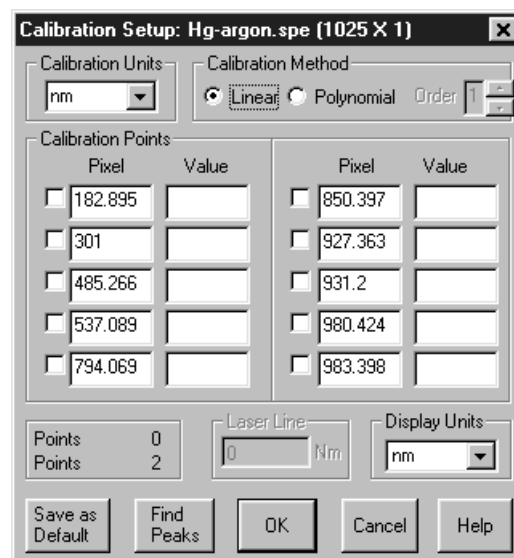
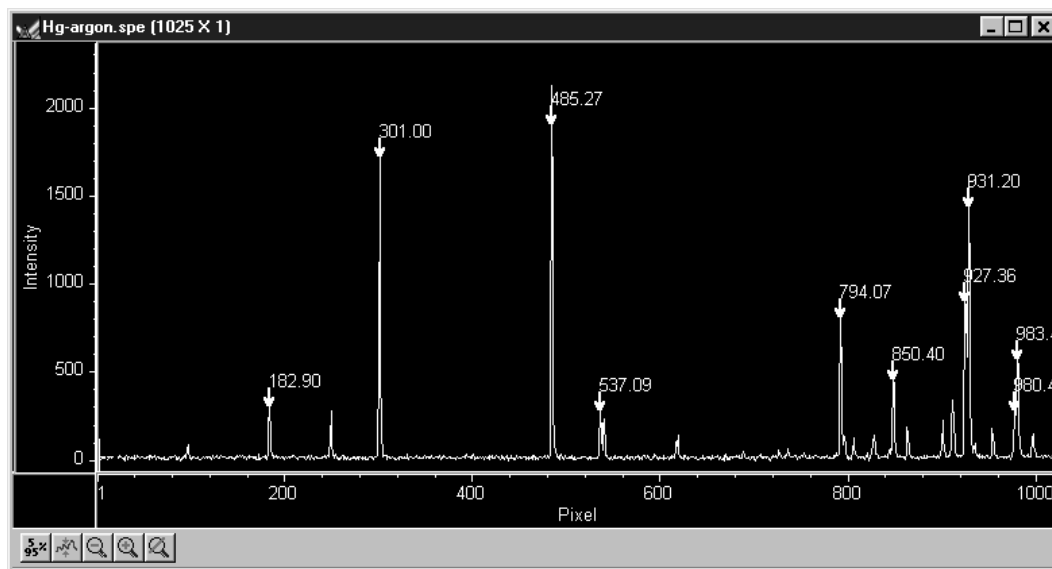

Figure 63. Calibration Setup dialog box after running Find Peaks routine on Hg-Argon spectrum
Figure 64. Spectrum after running Find Peaks routine
2. Click on **Find Peaks**. An automatic peak finding routine will be performed. The *maximum* number of peaks is equal to one quarter the number of displayed pixels. The pixel values for the 10 highest peaks will be shown in the Pixel boxes in the Calibration Setup dialog box as shown in Figure 63. Note that the Find Peaks routine causes a small red arrow to be displayed above each peak found in the spectrum together with a notation indicating the peak location in pixels (Figure 64).